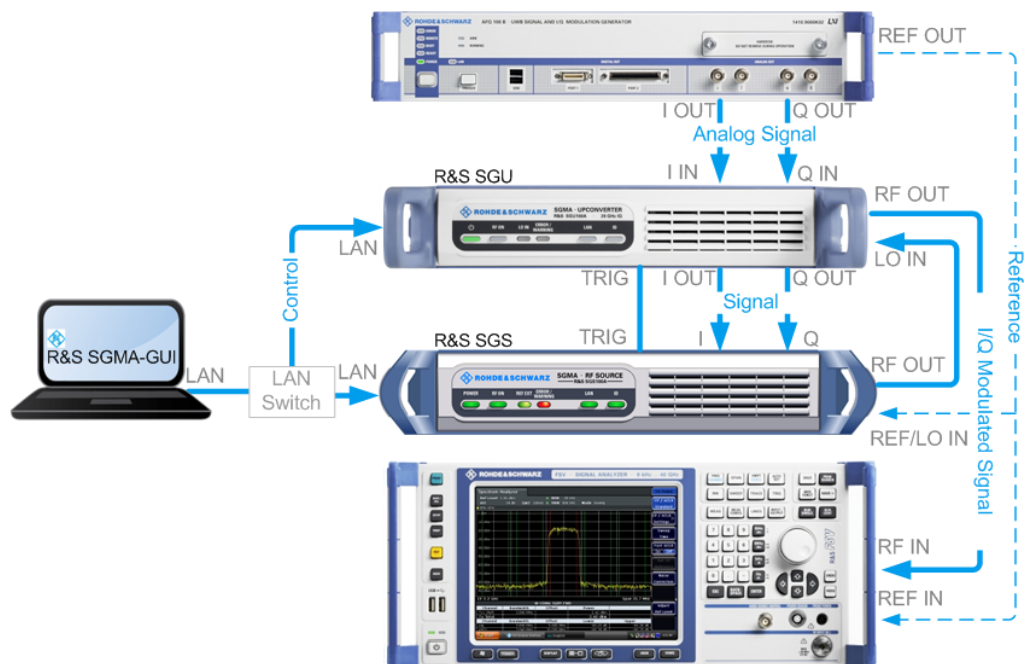

Fig. 9-2: Example of the test setup
The figure 9-2 shows an example of the test setup.
1. Connect the test equipment as shown on figure 9-2: